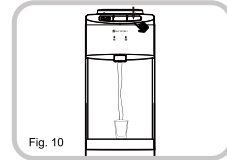

Fig. 10
2. Press down the cold water button. (Fig.10)